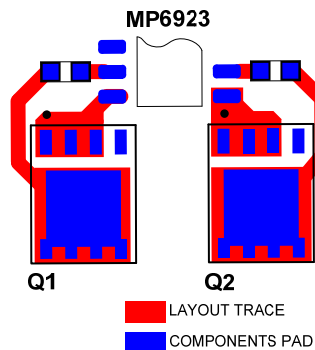
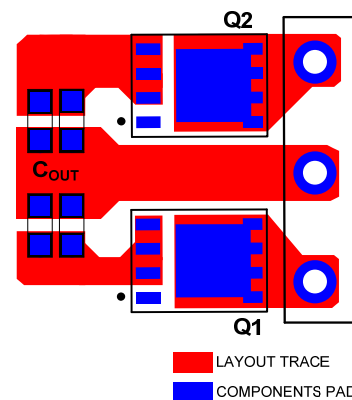

Figure 7: Layout Example for Sensing Loop
Figure 9: Layout Example for System Power Loop
- See Figure 7 for a layout example of the MP6923 driving PowerPAK SO8 package MOSFETs with two separate, small, sensing loops.
- See Figure 9 for a layout example of the power loop trace, which has a minimized loop length. The two channel power traces do not cross with each other.
- Place the driver's sensing loop trace (in Figure 7) away from the power loop trace (in Figure 9). The sensing loop trace and power loop trace can be put on different layers to keep them separate.